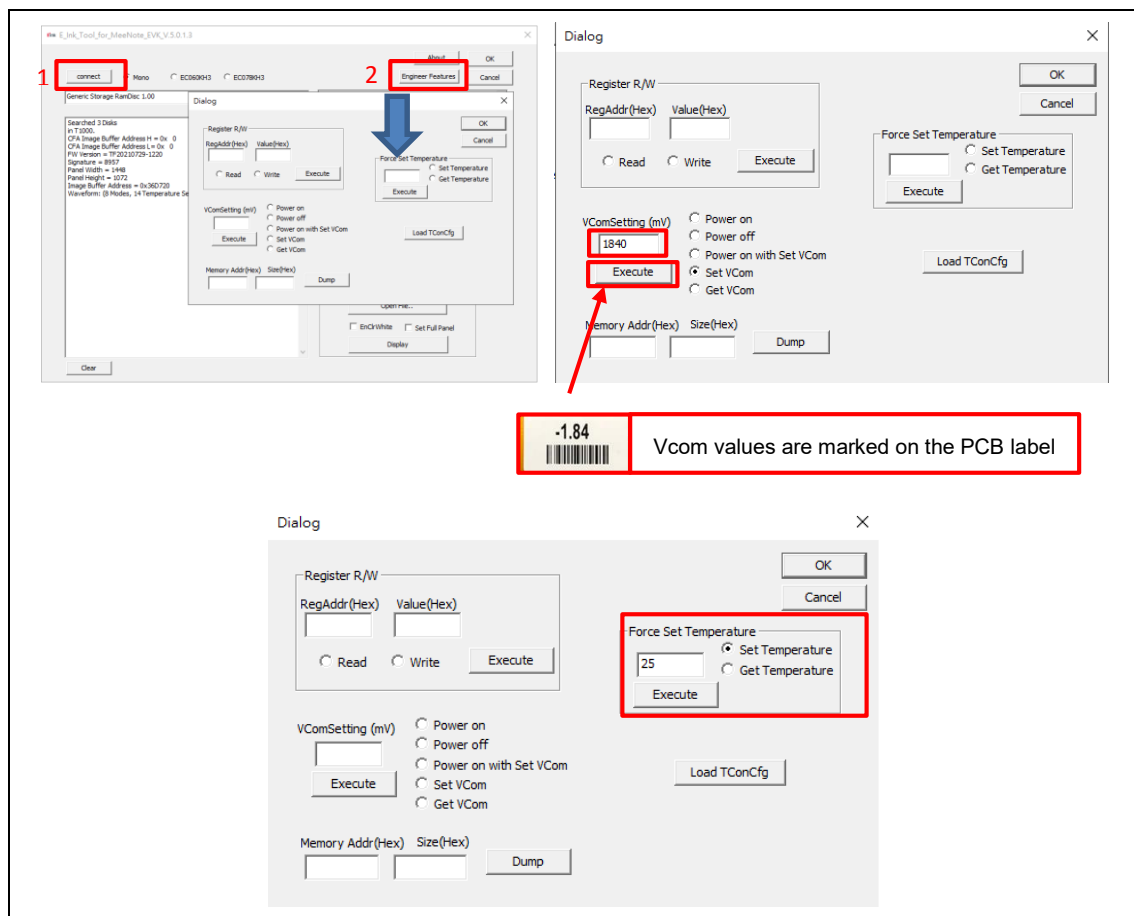

Figure 3.7
(4) How to set VCOM & temperature
- Execute E_Ink_Tool_for_MeeNote_EVK_V5.0.1.4.exe (refer to Figure 3.7)